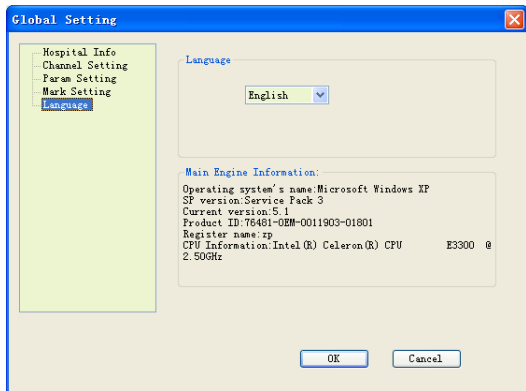

Figure 5-2-7
- 5) You can set up the display language through “Language” option (as Figure 5-2-7).